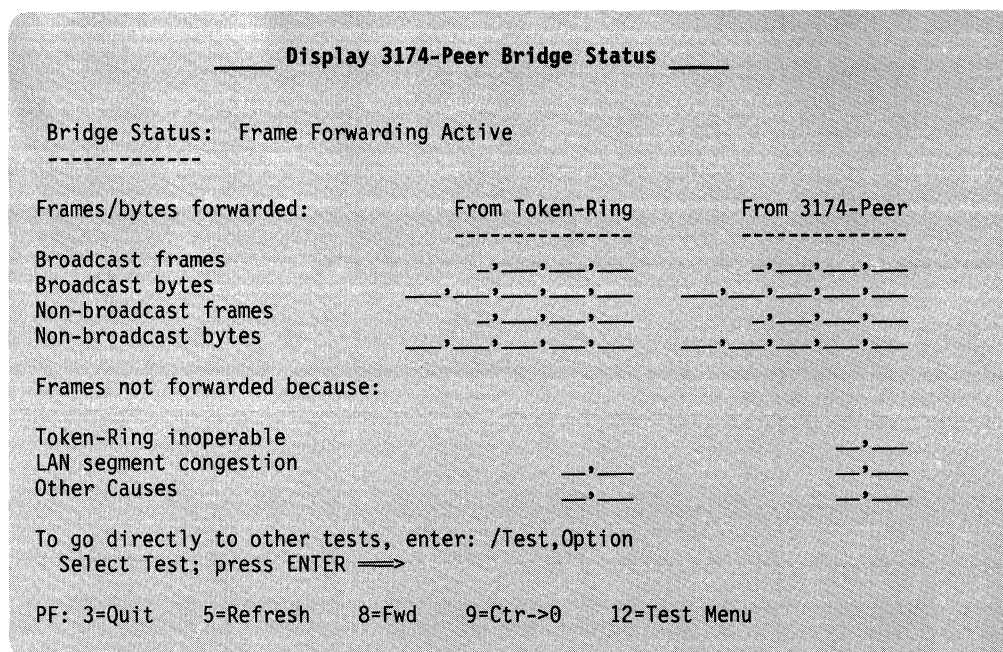

Figure 4-51. Example of a 3174-Peer Bridge Status Panel
**Test 9, Option 11:** Displays 3174-Peer bridge status and performance counters. Figure 4-51 on page 4-73 shows an example panel of the 3174-Peer Bridge Status panel.